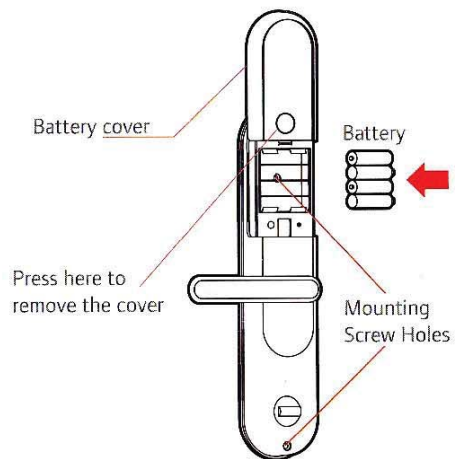

Fig.11
7-2-5 Tighten up the mounting screws (the screw behind the battery cover is M5X50mm and the other is M5X70mm). Fig. 11 shows the position of screw hole after removing battery cover.
- ▶ 8-1 As shown in Fig. 11, remove the battery cover (press the marked position in Fig. 11 and push it upward)